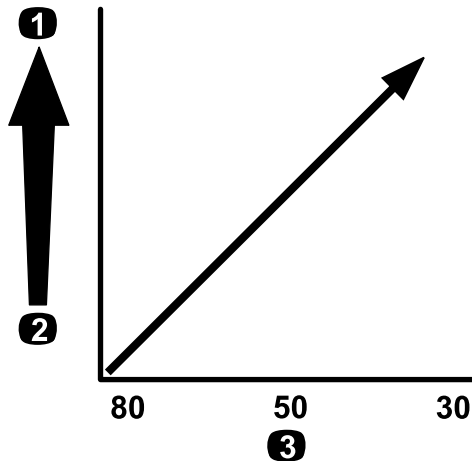

**Figure 20**
**Important:** When you spray with higher viscosity (thicker) chemical products or solutions with wettable powders, you may need to use a coarser screen mesh for the optional suction filter; refer to Figure 20.